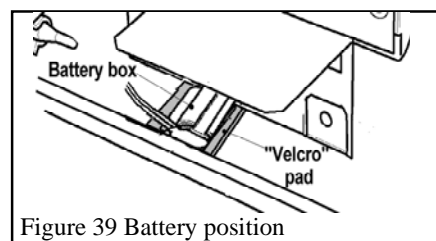

Figure 39 Battery position
5. Fit the four 1.5 V batteries. Place the battery holder on the "Velcro" pad in front of the battery shield. See figure 39.